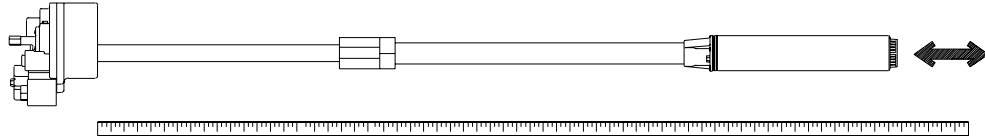

Figure 2.5 Adjust pump length
- 5: Pull the UMP end until the distance between the bottom of the manifold and the of the UMP is 5 inches (125 mm) (14 inches (356 mm) for floating suction) shorter than the distance measured in step 2 (see figure 2.5)